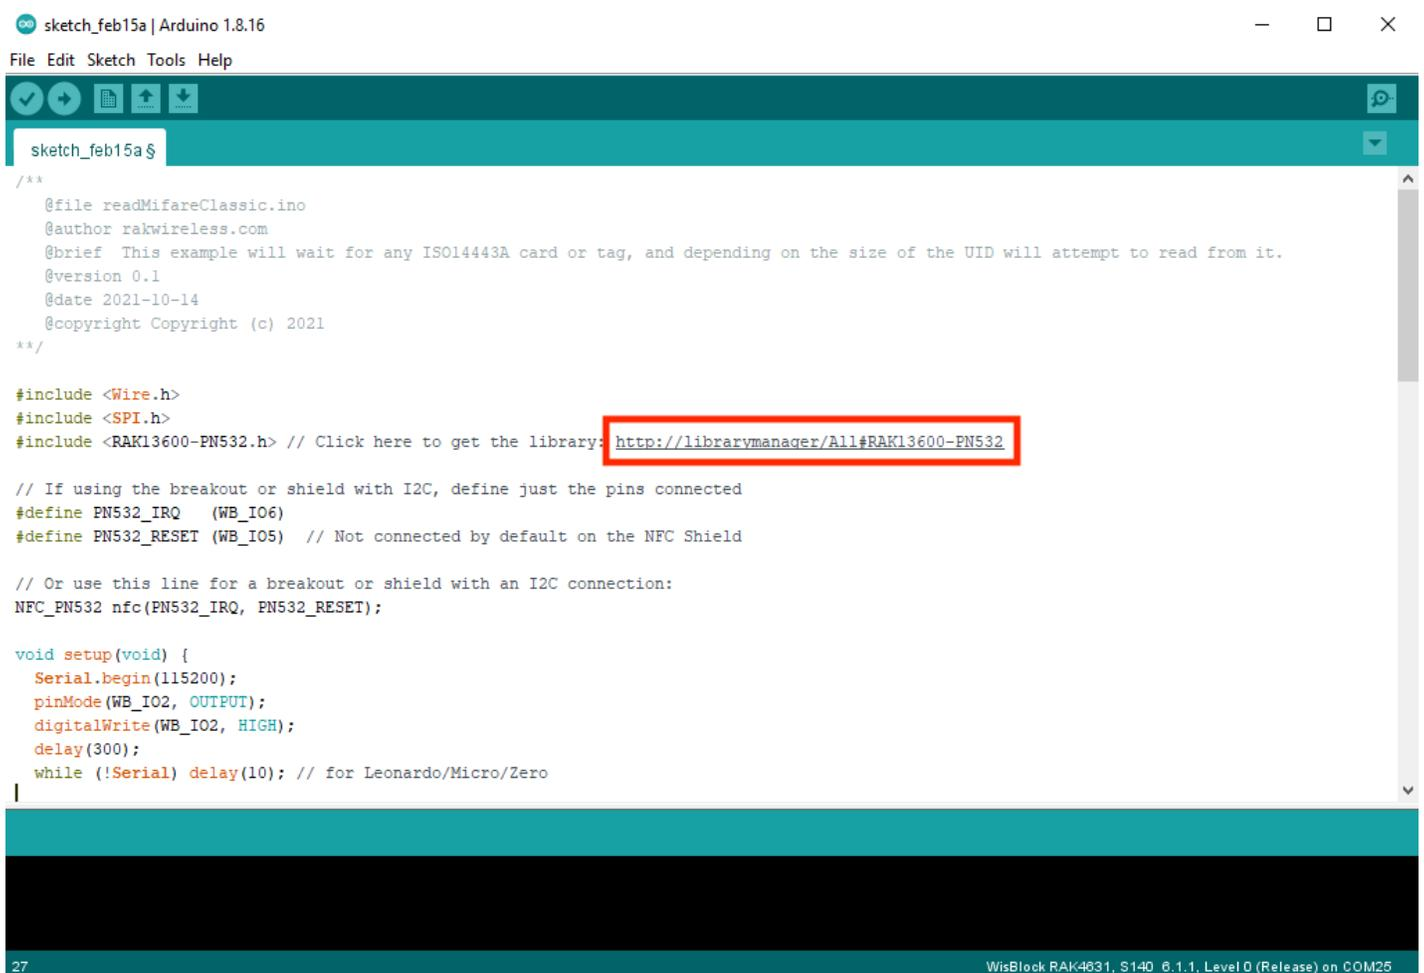

Figure 11: Getting the RAK13600-PN532 Library
3. Install the RAK13600-PN532 library by clicking the link highlighted by red box, as shown in **Figure 11**.